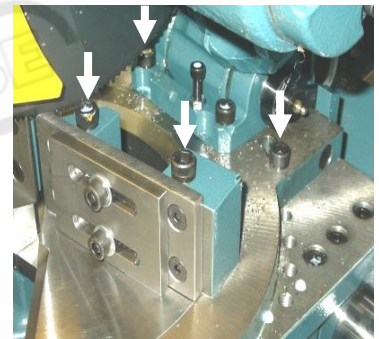

Figure 11. Angular Adjustment Bolts
- iii) To adjust the angle of the cutting surface, if necessary, loosen the 4 bolts, as shown in Figure 11. Fine-tune the angle required, then replace and re-tighten the 4 bolts.
The back jaw wear plates on the **Metal Cutting Saw** are typically fitted in the following manner. For angular cutting, the wear plates should be repositioned to provide the maximum support on one side and clearance on the other (*Figure 11*).
- i) To adjust the angle of the cutting surface, loosen the socket head screws shown in *Figure 11*, **located on the back jaw face that clamps the table**, using the hexagonal wrench provided.